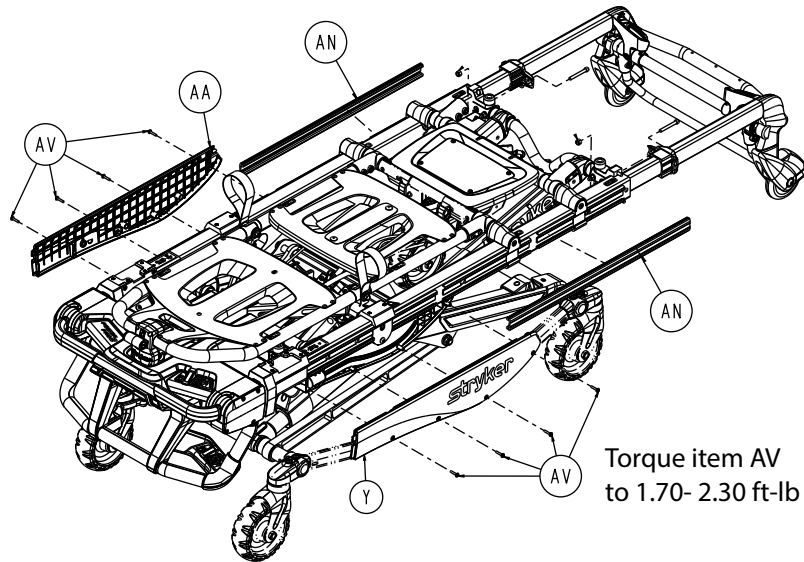

Figure 102 – Remove the slider block cover
7. Using a T20 Torx driver, remove the four round washer head tapping screws (AV) from the patient left slider block cover (Y) (Figure 102). Save the screws and cover.